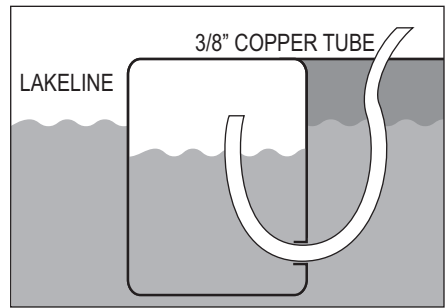

Fig.5
- To lower flotation chamber to its correct level, insert copper tubing into ballast hole. To stop flow of water, seal end of tube with thumb or remove tubing. (Fig.5)